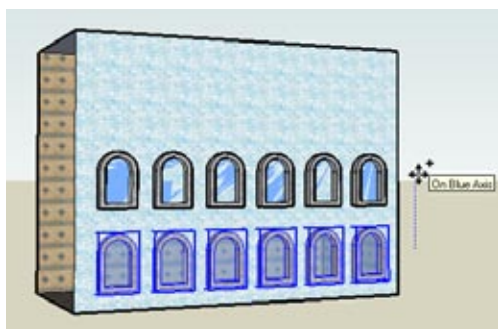

Figure 1-12
12. Activate Move and press Ctrl/Option. Click anywhere for the first move point—on a face, edge, or in blank space. Then click the second move point straight above the first move point, in the blue direction (Figure 1-12).